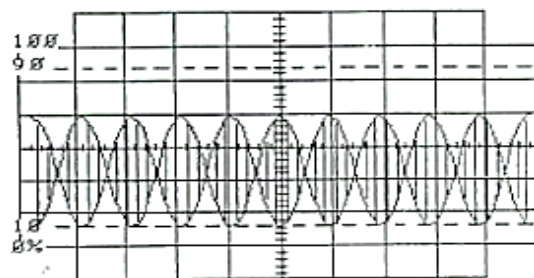

Figure 5-14.
31. Adjust the MIXER'S null potentiometer so that a DSB signal appears at the mixer's output, as shown in Figure 5-14.
11. On the AM/SSB RECEIVER circuit block, adjust the MIXER's null potentiometer so that a DSB signal appears at the MIXER's output. The signal on channel 2 of your oscilloscope should appear, as shown in Figure 5-14.